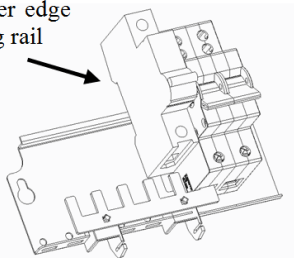

Fig 3.1
- Slide MCB onto busbar (Fig 3.1)